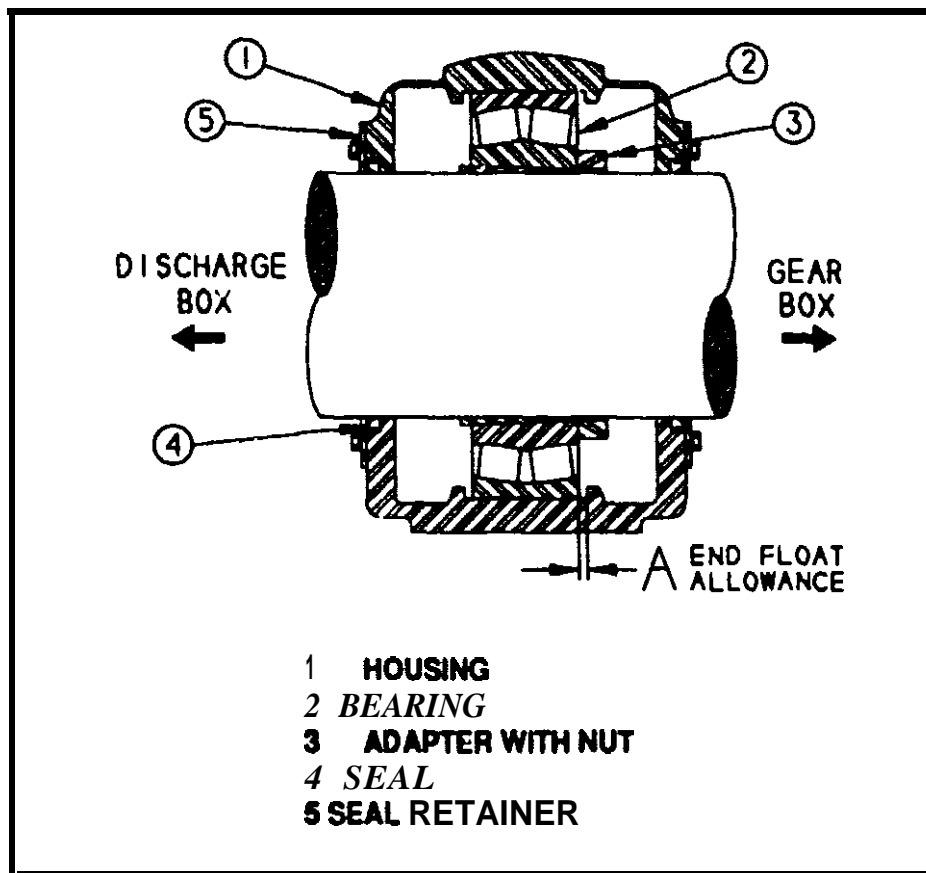
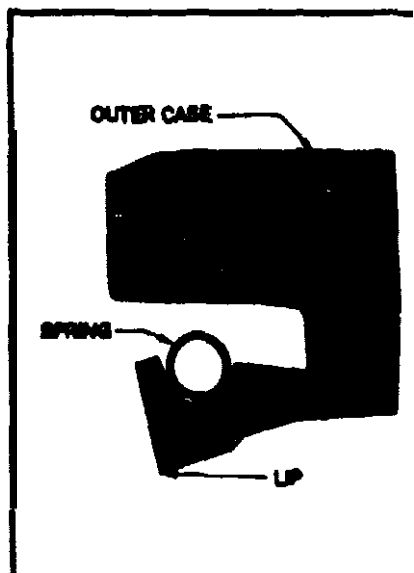

Figure 5.9-1
Figure 5.9-2
A tapered bore, double row, spherical roller bearing in a sealed pillow block housing supports the discharge end of the press shaft. The bearing is mounted on the shaft by a tapered adapter sleeve and nut. Figure 5.9-1 shows a cross section through the pillow block. The pillow block is mounted on a bracket which is part of the discharge box.
The pillow block grease seals are split so they may be replaced without removing the press shaft. To replace the seals, use the following procedure. The parts are identified in Figure 5.9-1. Figure 5.9-2 shows the seal cross section.
Remove the pillow block bearing by the following procedure, referring to Figure 5.9-1.
Use the procedure that follows and Figure 5.9.1 to install the pillow block bearing.
**NOTE:** When the steam heated shaft warms up during operation, its length will increase due to thermal expansion. To allow for this thermal growth, the bearing floats axially (towards the gear box) in the pillow block. Make sure the bearing is installed with the specified "end float" allowance, dimension "A" in Figure 5.9-1. The actual amount of float is specified in the 'Specifications' section of Chapter 1.